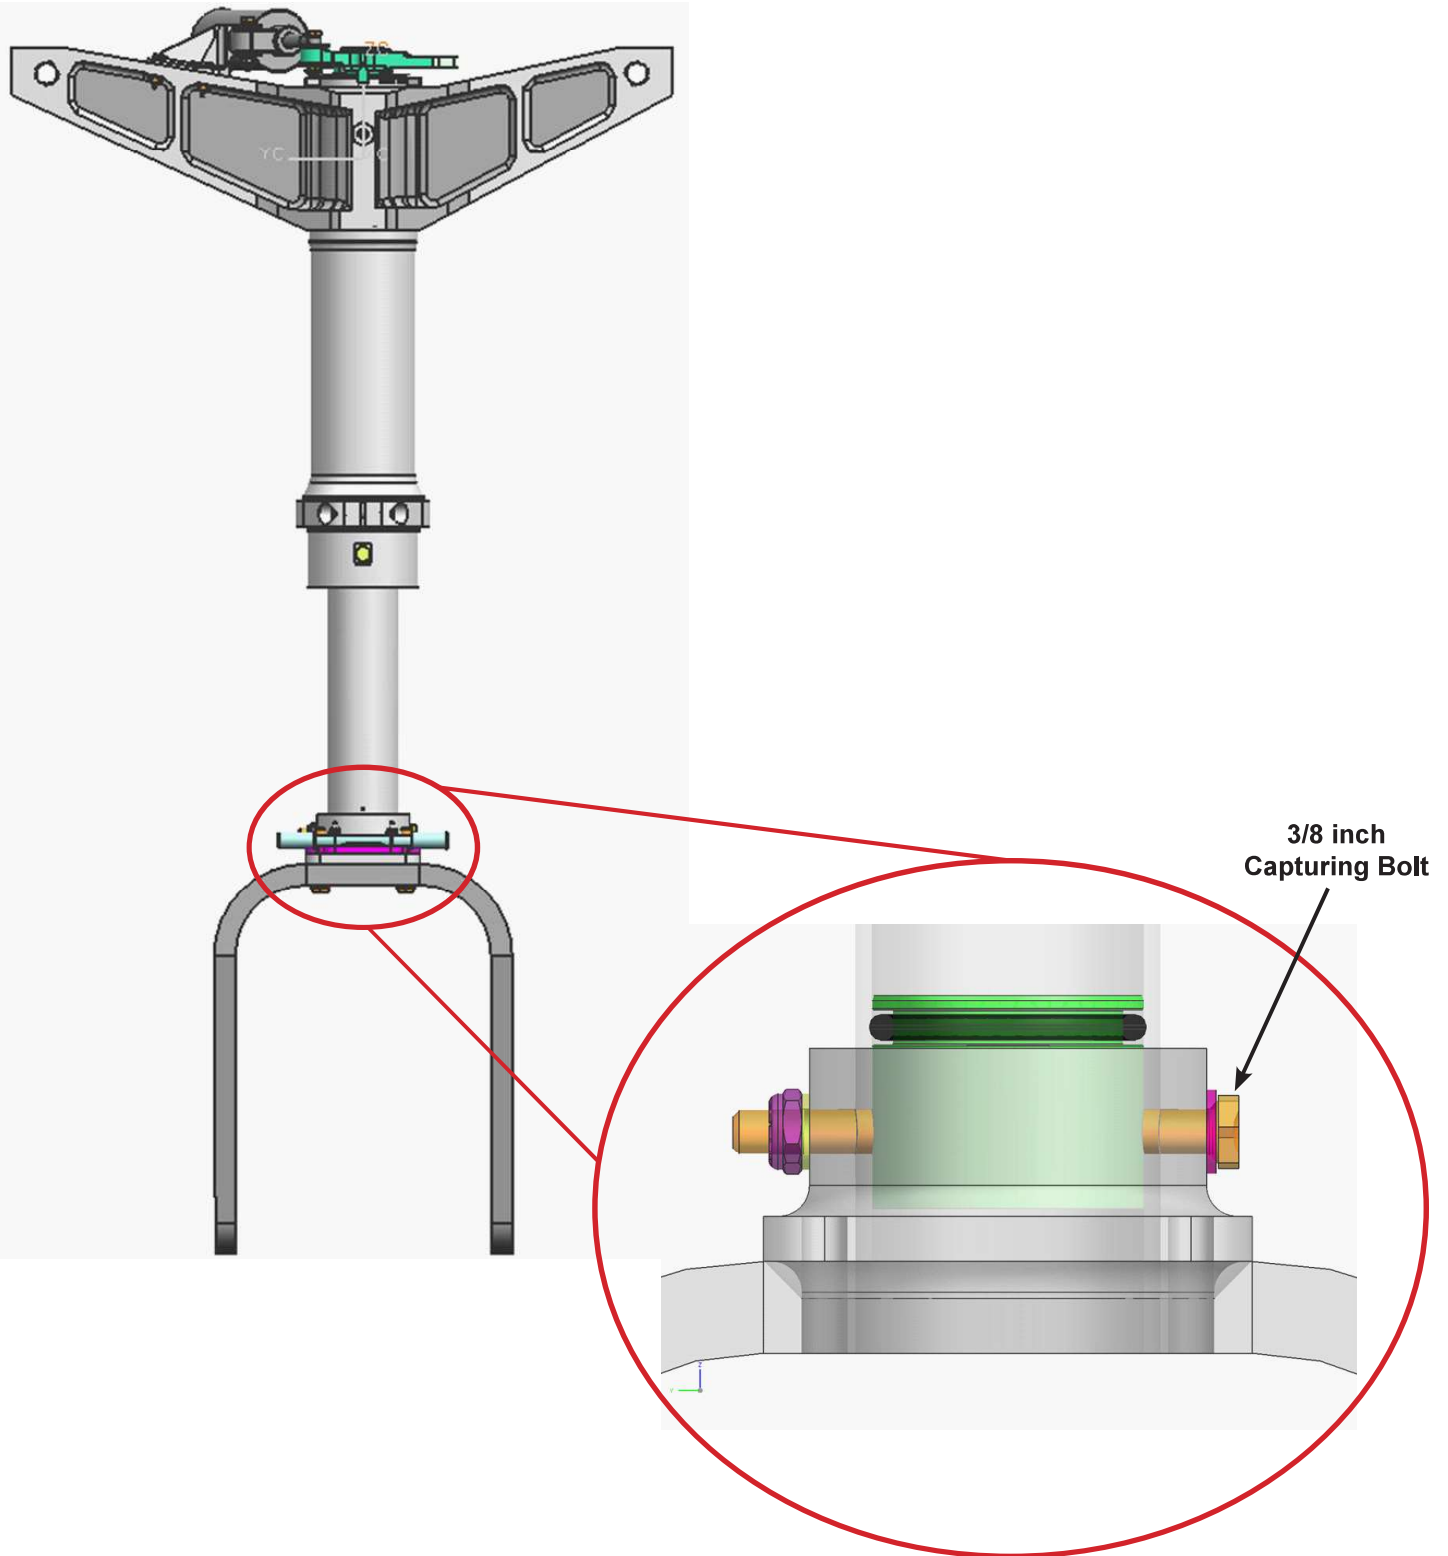

Figure 1-1 – View of the Nose Gear (with expanded view of nose gear piston tube cap)
4. Remove the capturing bolt from the nose gear piston tube cap (P/N **100-412-0103**). See **Figure 1-1**.